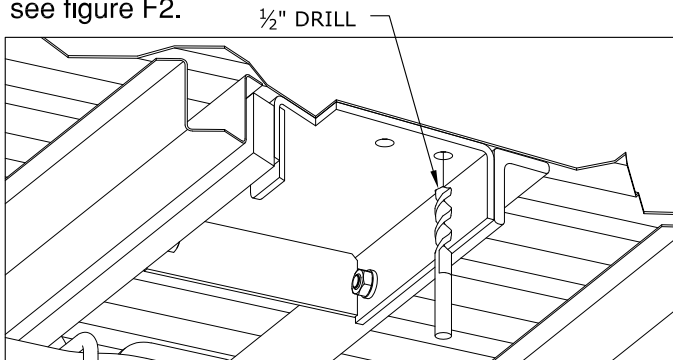

Figure F2: Cut away view from under the bed
1. **Drill the holes.** From under the bed use, a drill and a $\frac{1}{2}$ " drill bit to drill through the bed using the four holes that match up with a low rib in the truck as a guide. Remove any burrs created during the drilling process, see figure F2.